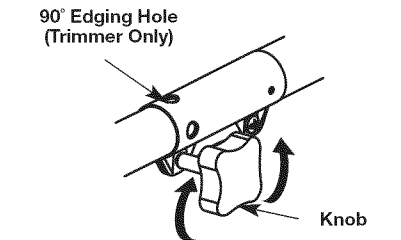

Fig. 5
1. Turn knob counterclockwise to loosen (Fig. 5).
3. Turn the knob clockwise to tighten (Fig. 5).
**NOTE:** When using the line trimmer or other attachment to edge, lock the attachment release button into the 90° hole (Fig. 5).
1. Turn the knob counterclockwise to loosen (Fig. 5).